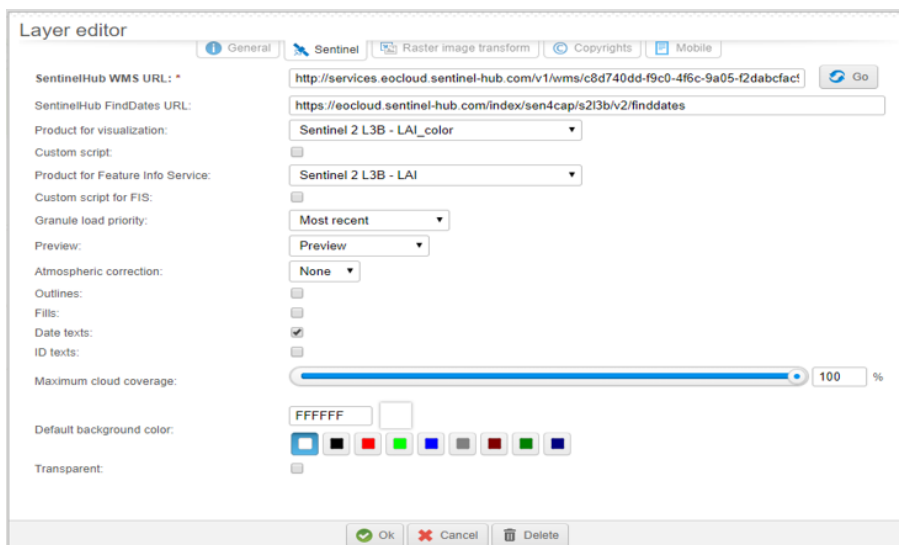

Figure 6-9. Settings for the S2 L3A - LAI layer
- **S2 L3A – LAI** (Figure 6-9)